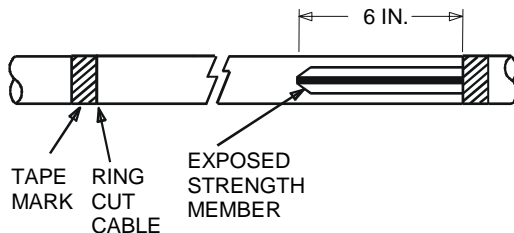

Figure 11 – Ring cut the outer jacket and expose the ripcords at one end.
1. Consult the closure instructions to determine the length of cable jacket that must be removed for the mid-span splicing application. Place tape marks on the cable to indicate the length of cable jacket that will be removed (Figure 11).
3. Shave off about 6 inches of the outer jacket at one of the tape marks to expose the fiberglass strength members and ripcords (Figure 11).